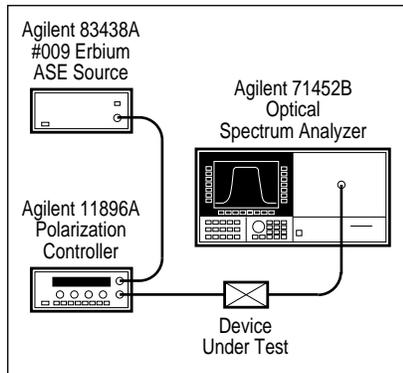

Figure 13.
The Agilent 83438A #009/71452B/11896A setup as shown in Figure 13 characterizes components for dense wavelength-division multiplexing (DWDM) applications fast and accurately versus wavelength. Under remote control, it can measure insertion loss, crosstalk and PDL automatically. Other characteristics can be calculated too, such as the polarization dependence of the center wavelength or bandwidth of a filter.
1. Connect the DUT as shown in Figure 13. Activate the light source and let the Agilent 11896A scan.
4. Set **SENSitivity** to -60 dBm. If necessary, increase the sensitivity. Watch the sweep time (ST).